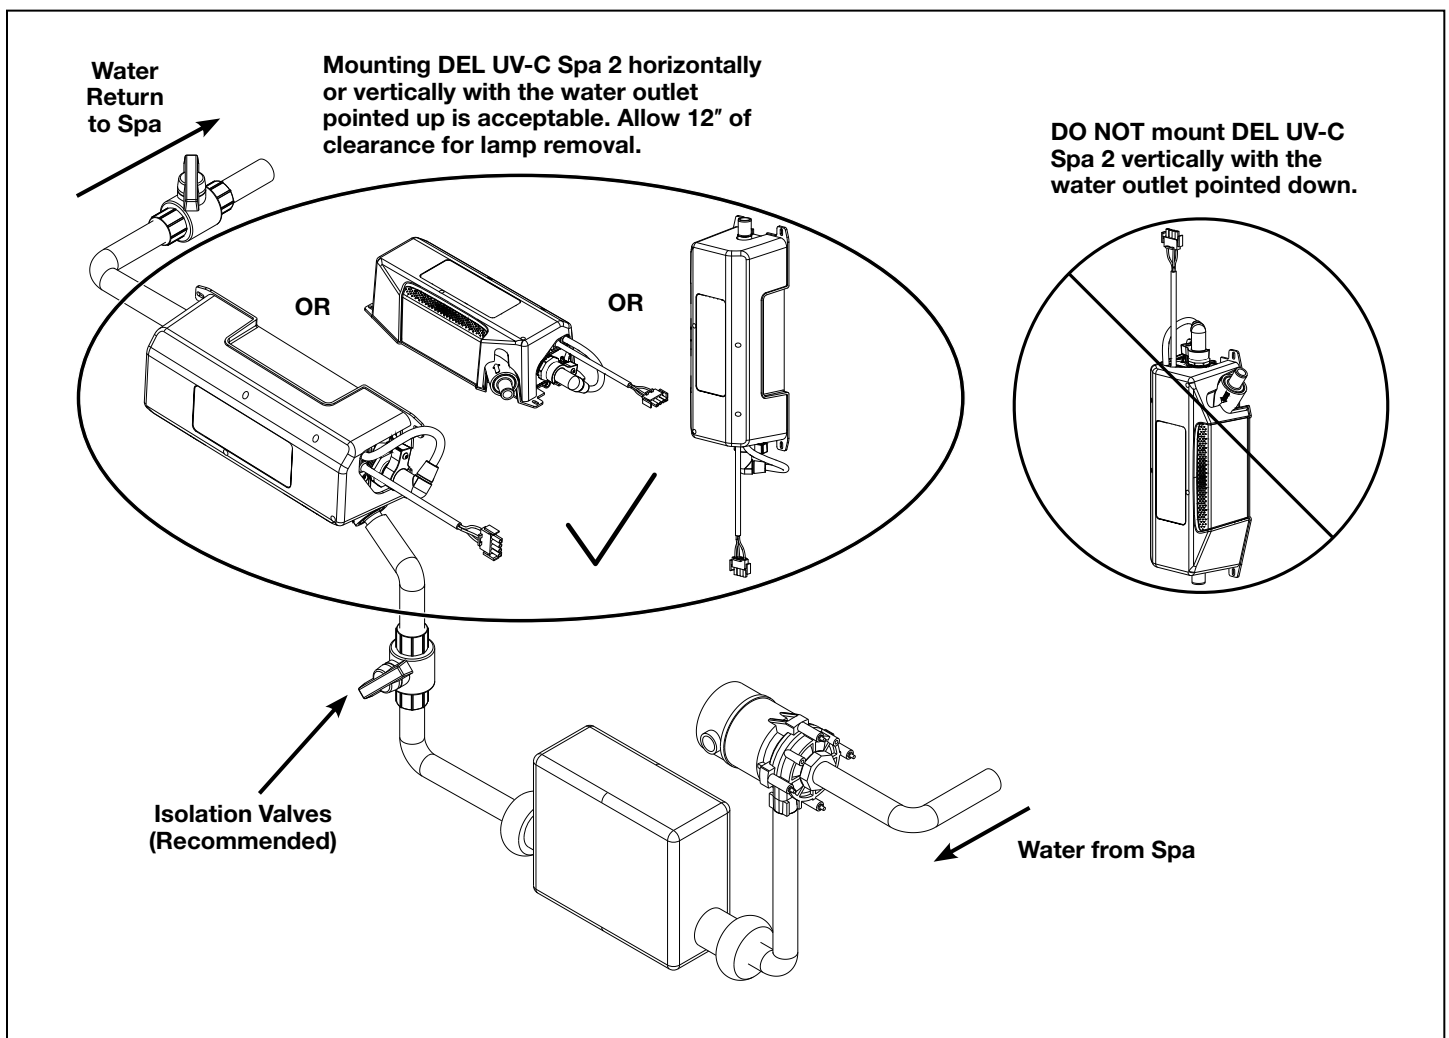

Figure 2. DEL UV-C Spa 2 Plumbing Diagram
- Any orthogonal mounting orientation—other than vertically with the water outlet pointed down—is allowed. The most common mounting orientation is horizontal, as shown in Figure 2.